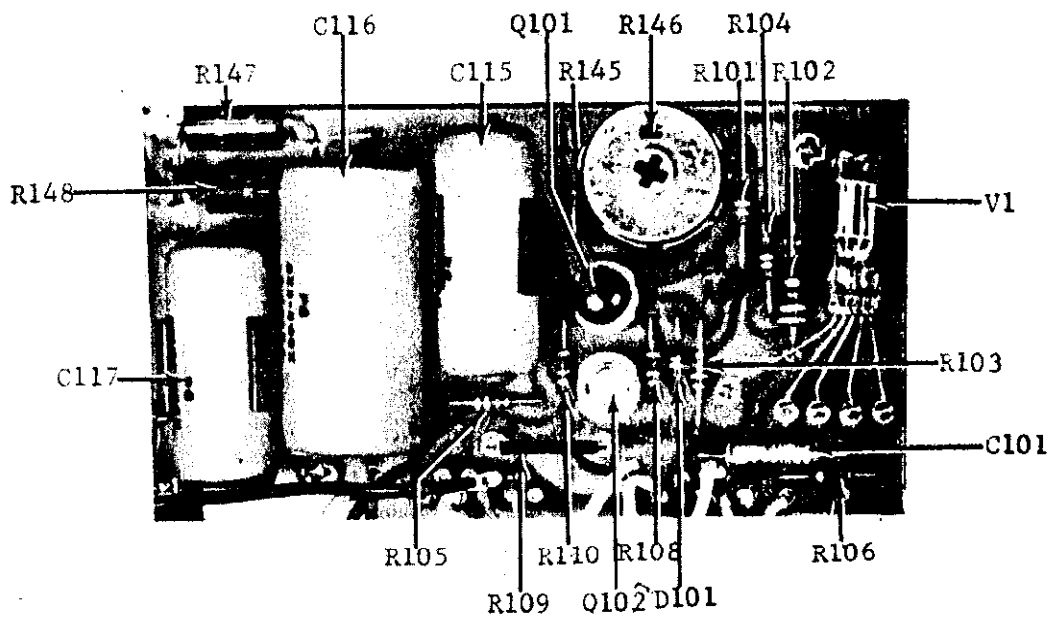

FIGURE 18. Component Locations on PC-118.
3. Adjust FILTER ADJ potentiometer R146 (Figure 18) for minimum voltage at the output of the filter (junction of resistor R148 to low). Monitor the output with the Model 503